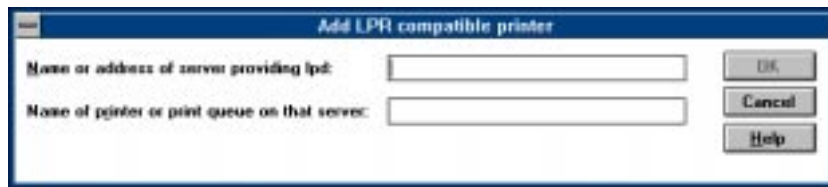

Figure 15. Add LPR Compatible Printer Dialogue Box
6. Select "LPR Port" from the list that displays and click OK to bring up a dialogue box similar to the one found in Figure 15.